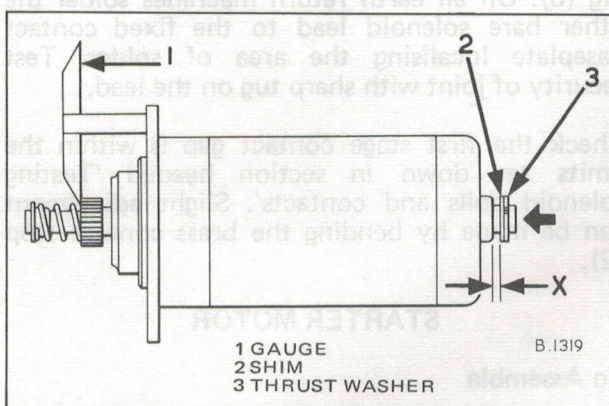

Fig. 9 End float adjustment
- Bolt the gauge on to the mounting flange with the arm marked "CHECK" towards the pinion Fig. 9, then push the armature towards the drive end of the machine until the pinion face just touches the gauge. With the armature held in this position, measure gap 'X' between thrust washers (3) and the commutator end shield, using feeler gauges.